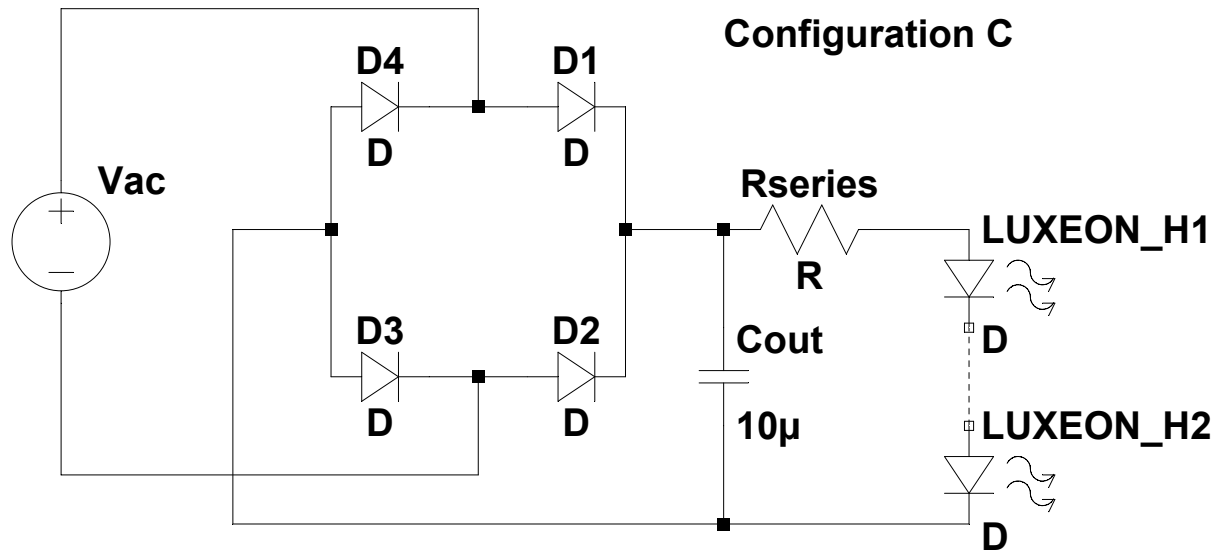

Figure 7. Configuration C, for use with table 3.
3. Configuration C: 10μF output capacitor in parallel and a resistor in series with LUXEON H LEDs (Figure 7)